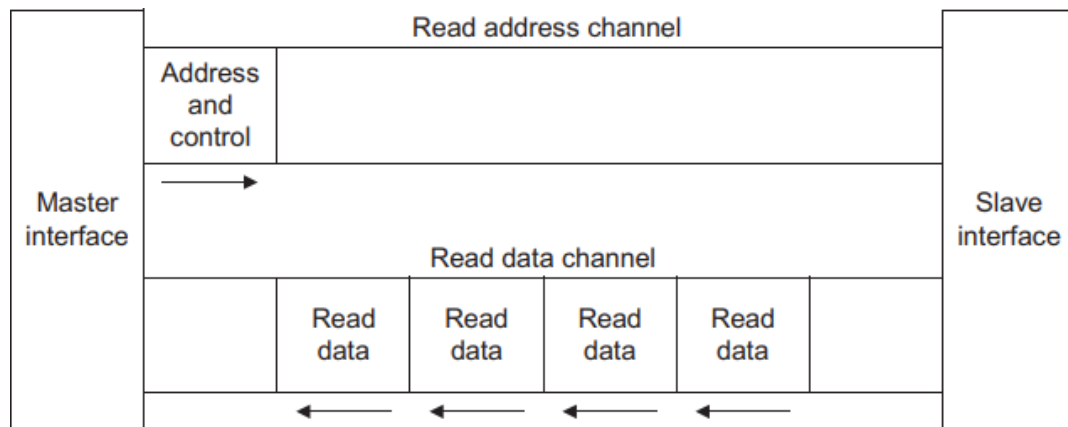
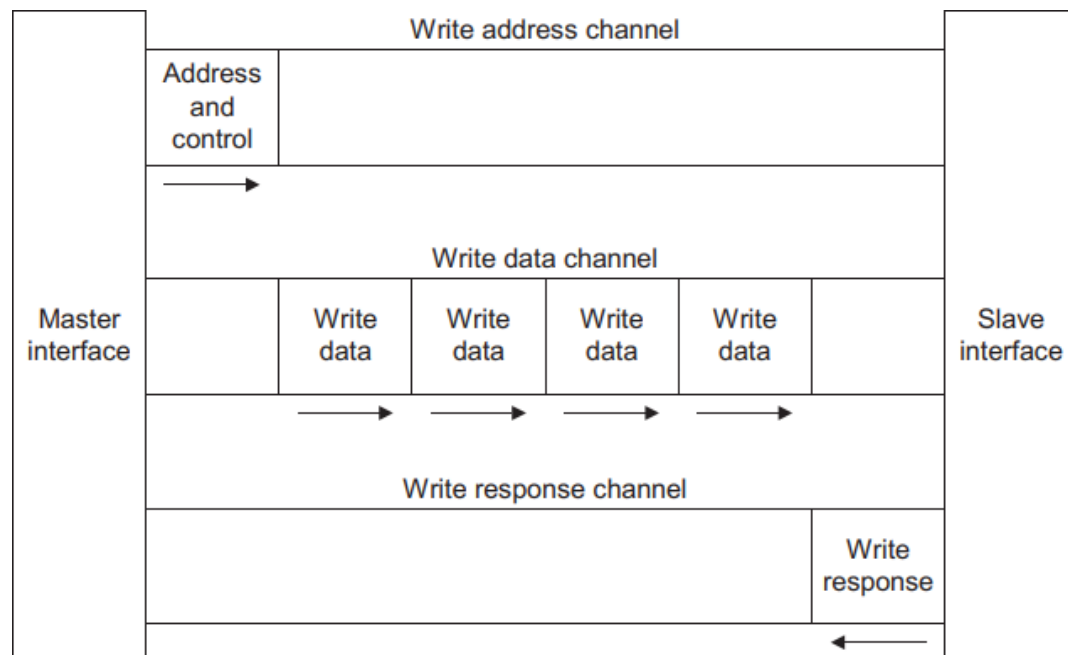

Fig. 1-1: AXI Read Channel Architecture
Fig. 1-2: AXI Write Channel Architecture
- The conceptual architecture of AXI architecture is shown in Fig. 1-1 and Fig.1-2. The TOP module of AXI code will be provided on the course website. Please download and complete them by yourself.